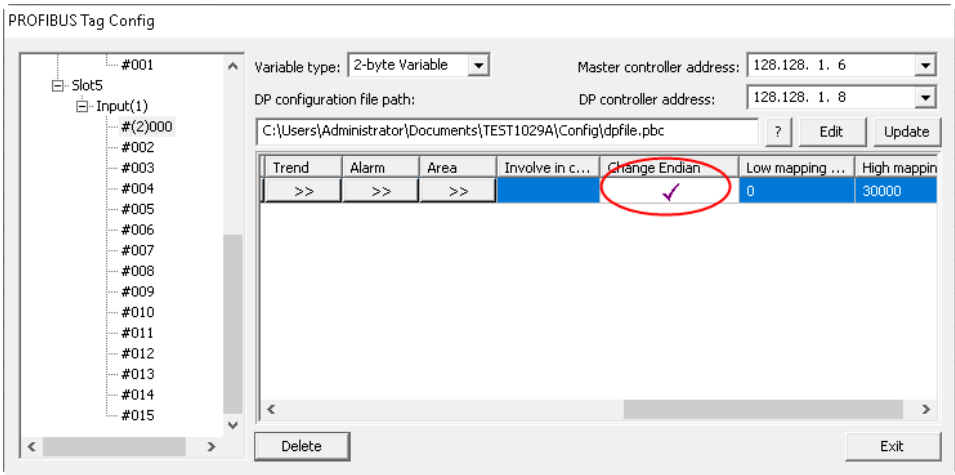

Figure 4-39 Change Endian
- 2-byte variable and 4-byte variable are added “Change Endian” for little-endian or big-endian, as shown in Figure 4-39.